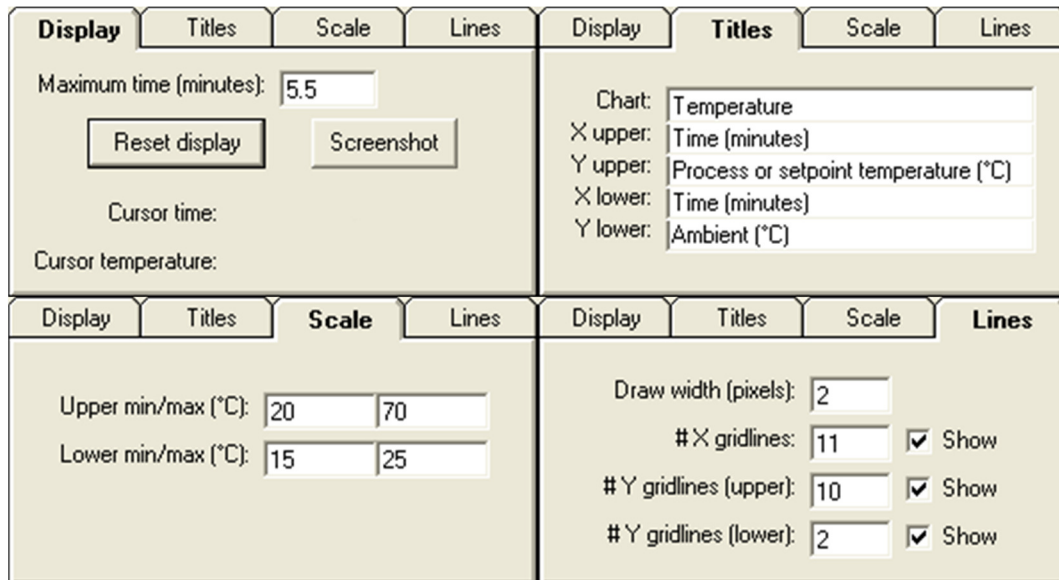

Fig. 6: Graphical display settings
7. Set graphical display values to those shown in Fig. 6 and click “Reset display”.